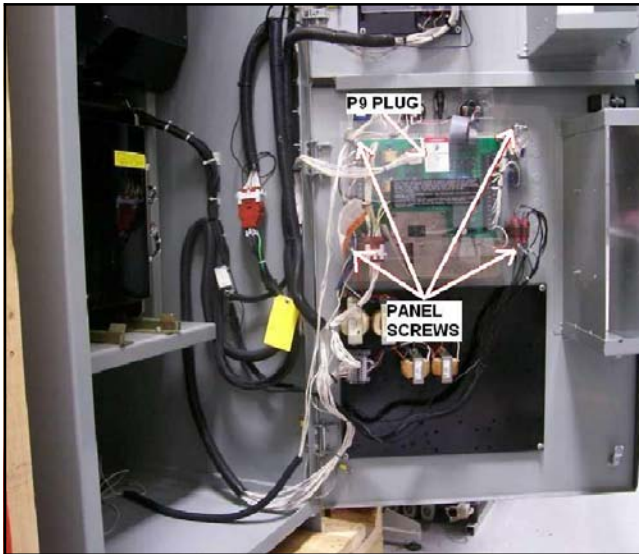

Figure 4 Plastic Panel
5. Remove the plastic protective panel by removing the screws shown in Figure 4.